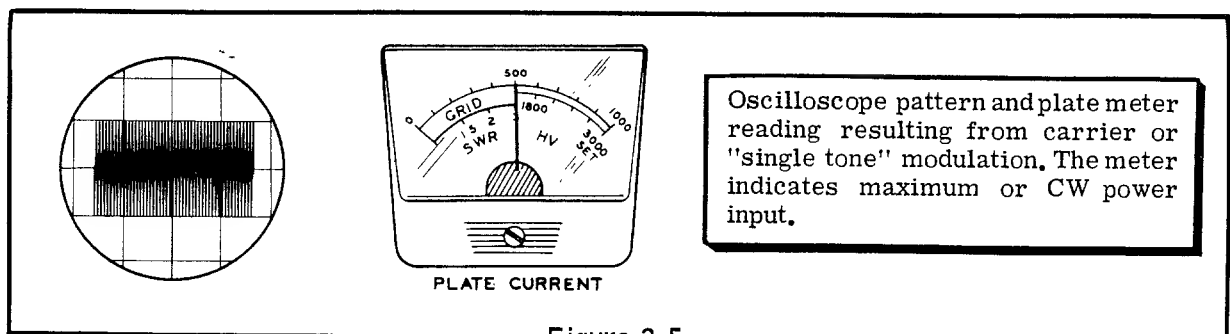

Figure 2-5
- The Linear Amplifier is now loaded for operation at maximum input power. If an oscilloscope is being used for monitoring, a display similar to that shown in Figure 2-5 should be obtained.
in Figure 2-5. This increase in peak power is due to dynamic characteristics of the power supply and allows the Linear Amplifier to develop approximately 20% greater peak envelope power for a given level of CW input. The meter will indicate only one-half or less of the single tone level, depending on the individual's voice, before "flat topping" occurs.